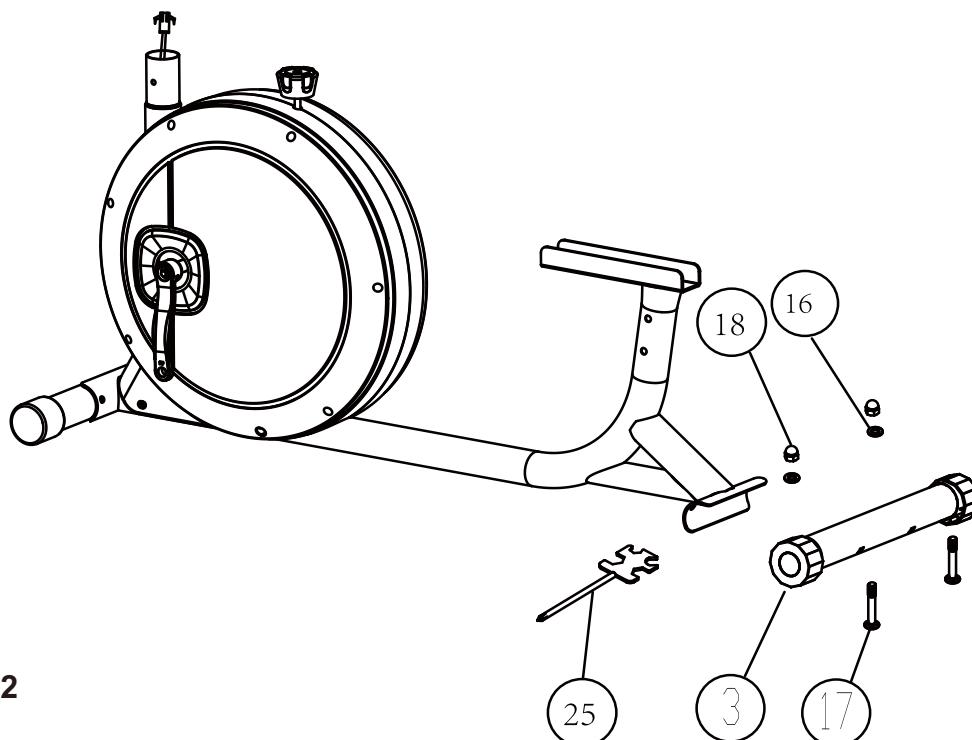

Figure 2
2. Use two No.17 carriage screws, No.16 arc washer and No.18 high cover to fix the No.25 open cross wrench No.01 main frame assembly with No.03 rear foot tube assembly together as shown in Figure 2.